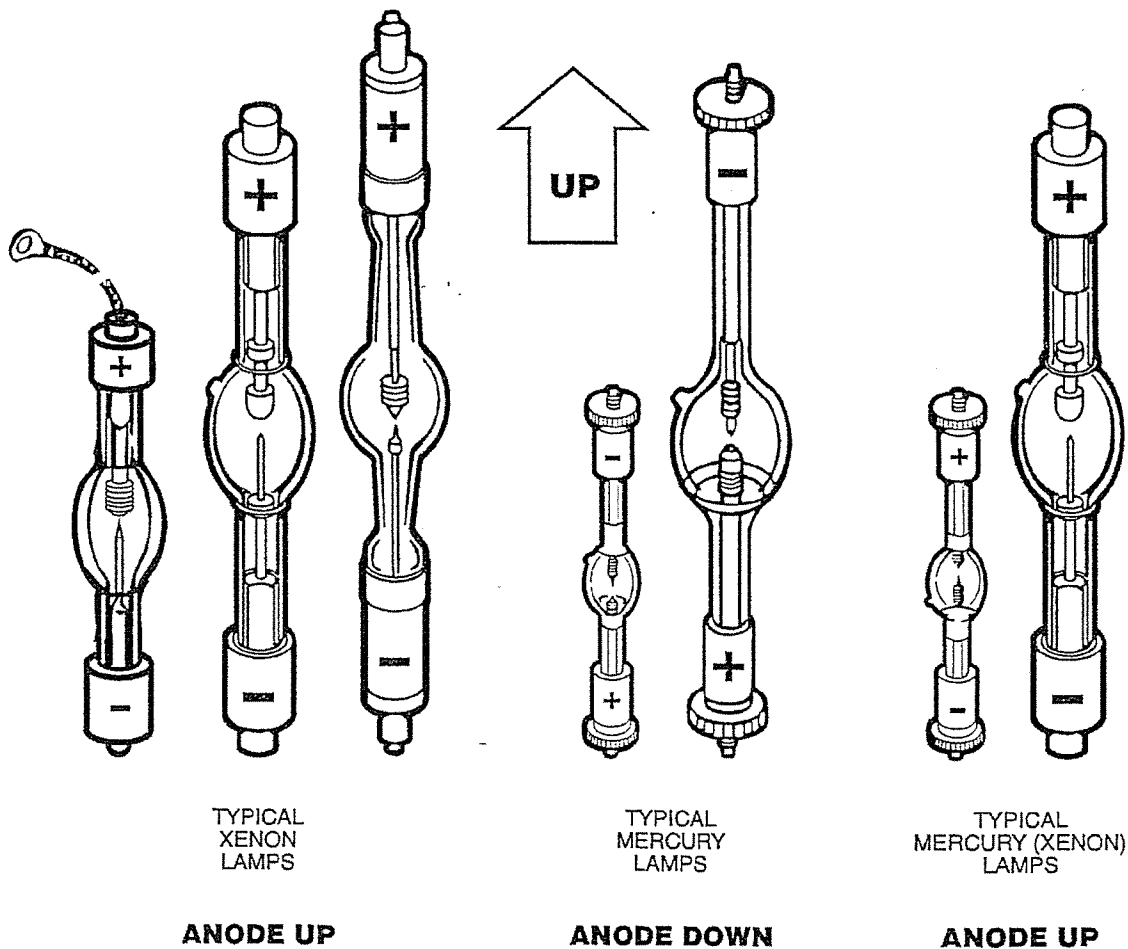

Figure 3: Correct operating position for Arc Lamps
- Determine which orientation is correct for the lamp. For xenon and mercury (xenon) lamps, the anode (+ve) is at the top. For mercury lamps the anode (+ve) must be at the bottom. You can identify the anode by a + stamped on the lamp base. Any lamp identification writing or numbers will be the correct way up when the lamp is held in the correct operating orientation. See Figure 3 for a diagram.